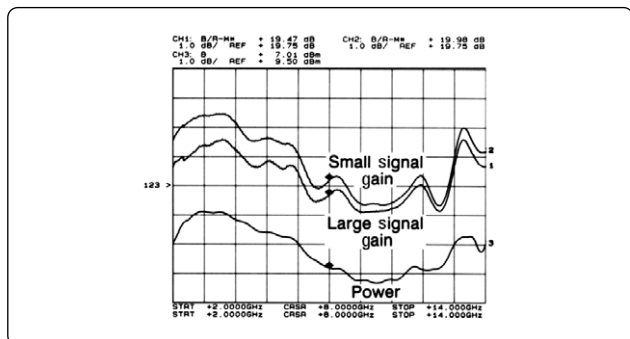

Figure 6. Example swept frequency gain compression measurement using the Alternate Sweep mode. The large signal gain trace shows amplifier gain compression.
Swept gain compression measurements can be made using the Alternate Sweep feature of the 8757 and the 8350 to alternate between two instrument states at different power levels (see Figure 6). Both small signal gain and large signal gain can be viewed in real time. The difference between traces is due to compression. The source power can be adjusted so that 1-dB compression occurs at any desired frequency, and then the power out, P_{1dB} , can be measured with a separate channel.
6. Press [CHANNEL 1], then increase the source power level on the present state by pressing [POWER LEVEL] and turning the knob. As the amplifier saturates, the channel 1 trace will fall. Figure 6 shows an example.
7. In this configuration, power can be measured on channel 3. Press [CHANNEL 1], then select [CHANNEL 3]. Press [MEAS] and select [B] to display the amplifier output power in compression or [R] to display the input power to cause compression. Since channels 1 and 3 are alternated with channels 2 and 4, channel 3 in this configuration will display the large signal output power (see Figure 6).